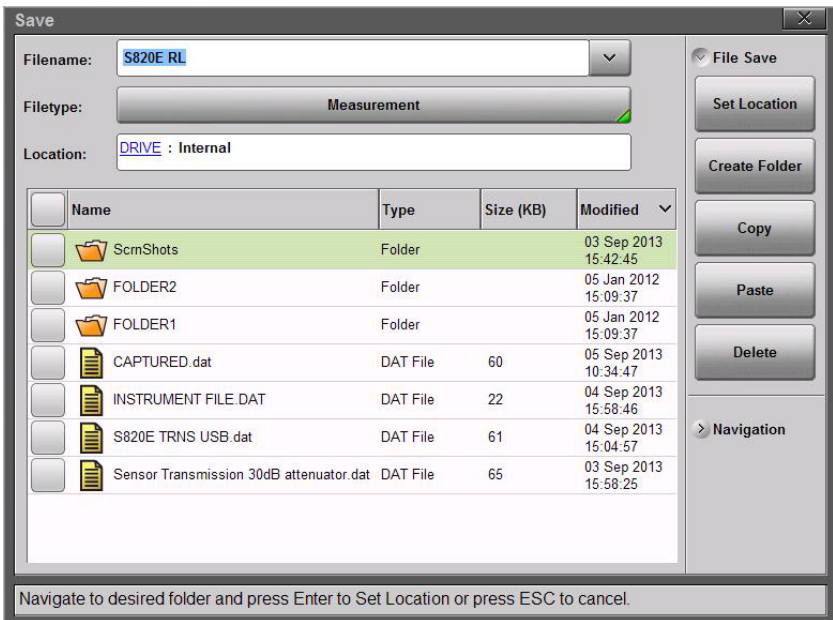
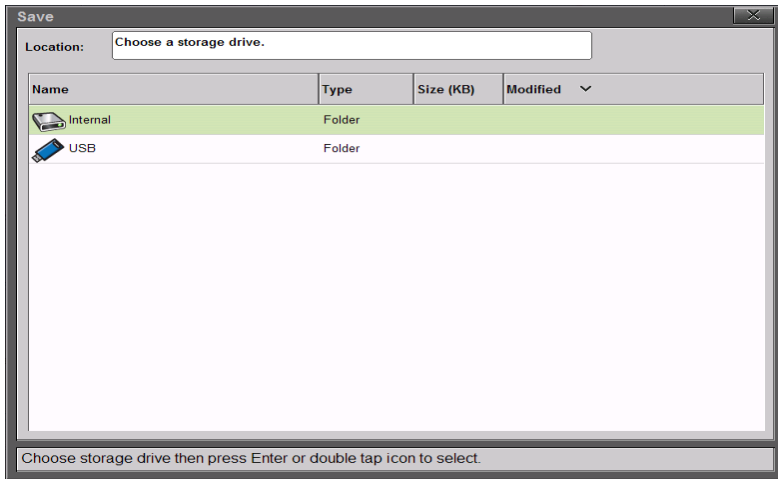

Figure 10-2. Default Save Location
Figure 10-3. Choose a Storage Drive
Navigate within a location in Internal Memory or a USB flash drive, then press **Set Location**. The selected save location is displayed. In Figure 10-2 the bread crumb shows that pressing **Set Location** will set the location to the root level of the internal memory (even if a subfolder is highlighted).
1. Press the **Location** button shown in Figure 10-1 and select where to save the file. The default location is the Site Master internal memory (Figure 10-2).
- Files can also be saved to an external USB flash drive. Insert a USB flash drive into the Site Master USB Type-A connector (Figure 2-1) and double tap on DRIVE: (Figure 10-2) to display the top navigation level showing both the internal memory and the external USB drive (Figure 10-3 on page 10-6).